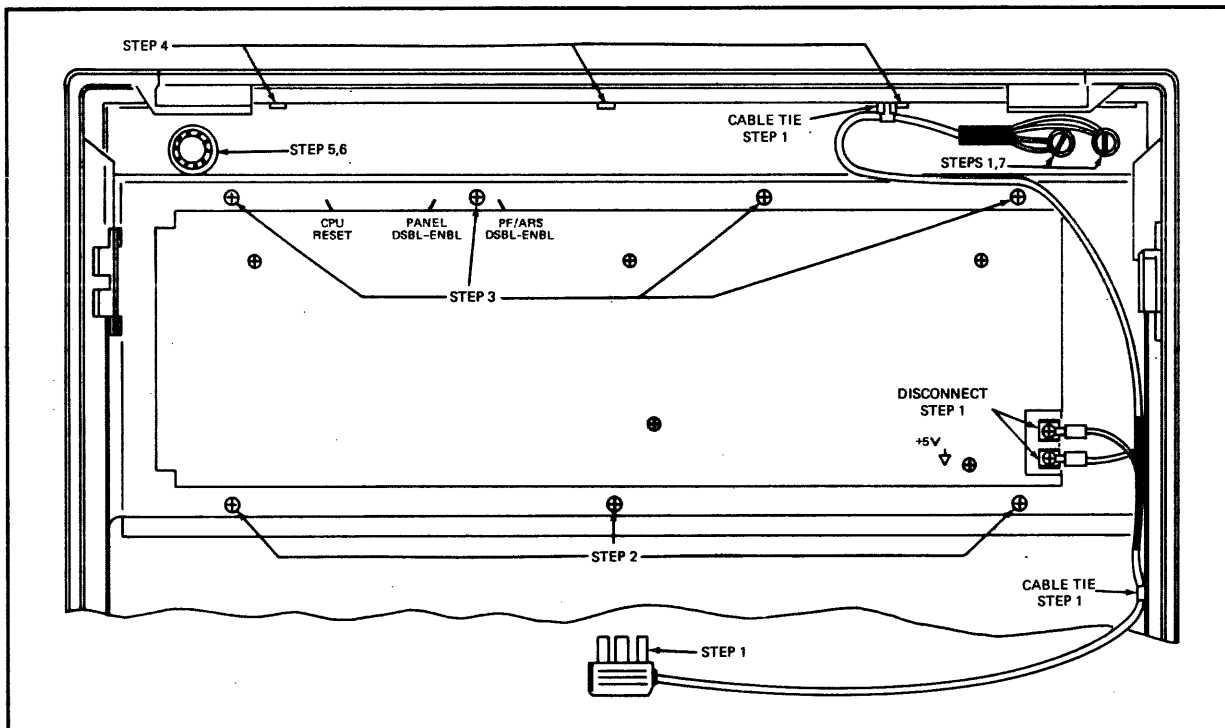

Figure 4. Hardware Installation at Top of CPU Front Door
1. At the DC Control Panel, unplug the cable to the System Control Panel. At the System Control Panel, disconnect at two terminals; then disconnect at the two LEDs. Cut two cable ties and remove cable. See figure 4.
13. Use cable ties to fasten cable 30003-60014 (removed in step 1) to the top and side of door. See figure 4.